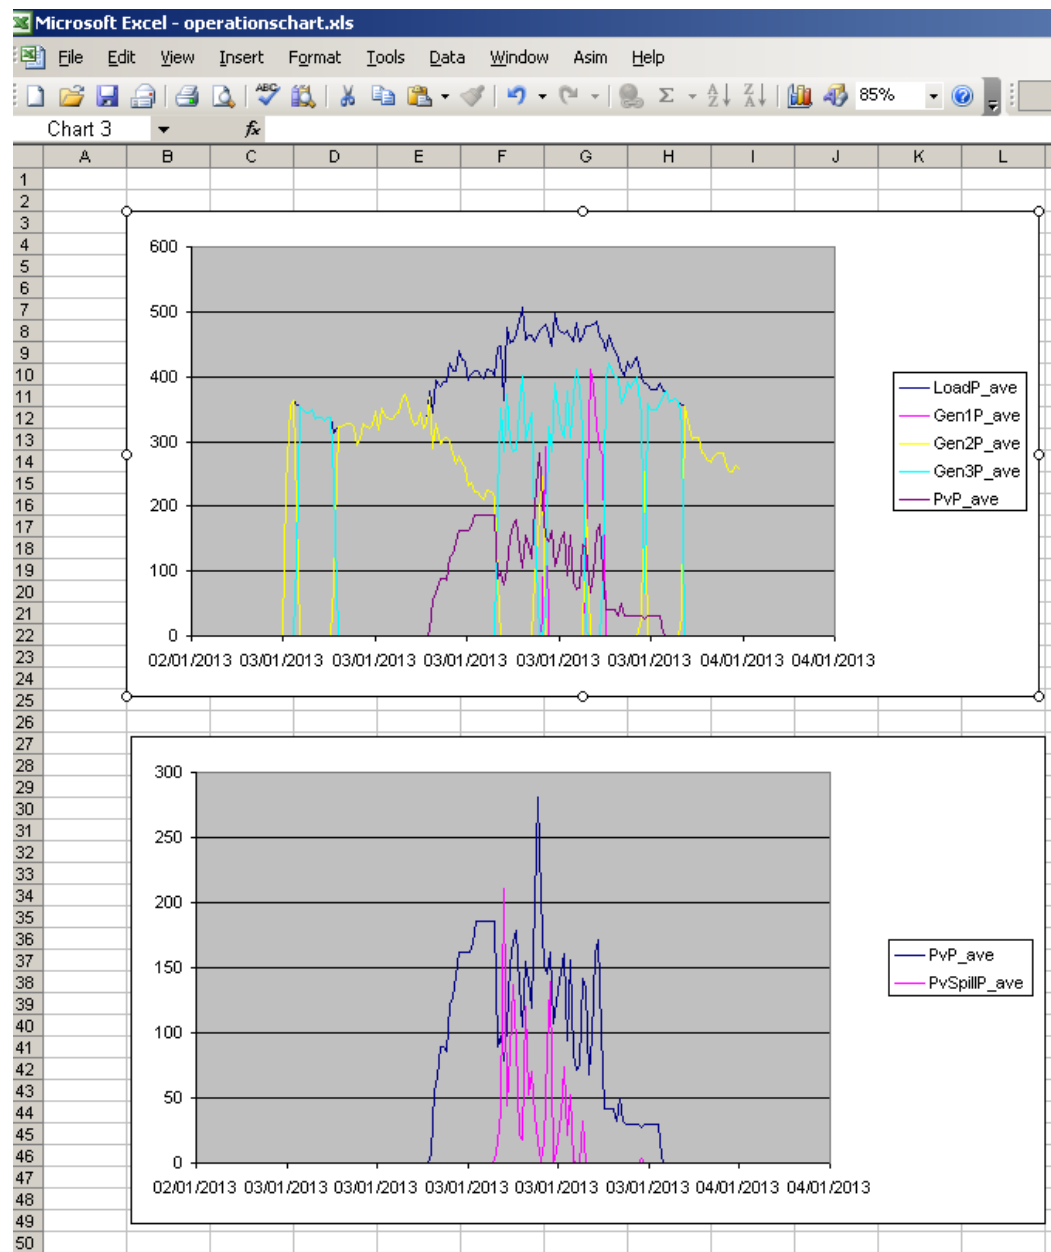

Figure 28: Report from opertionschart.xls
12. Create 2 charts as in Figure 28: